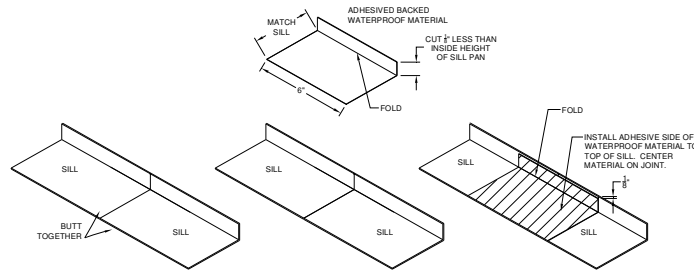

Figure 6:
- Cut a piece of adhesive backed waterproof material to fit the joint as specified in Figure 6, $A=1/4"$. Select waterproofing material that is compatible for your application. Waterproofing material must have an adhesive backing and be capable of withstanding the temperature ranges for your region (Figure 18).